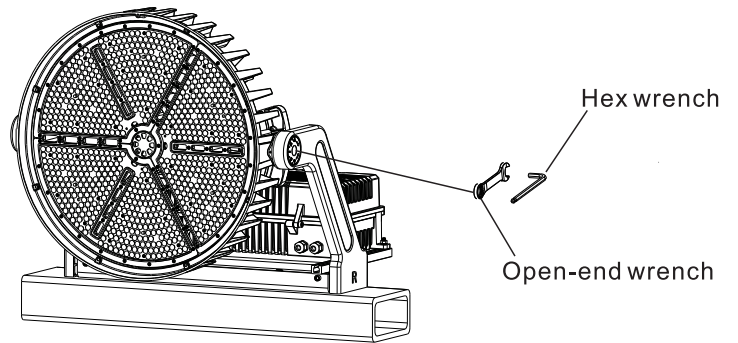

Figure 5
4. Use an open-end wrench and hex wrench to loosen the adjustment screw used to adjust the angle (Fig. 5)